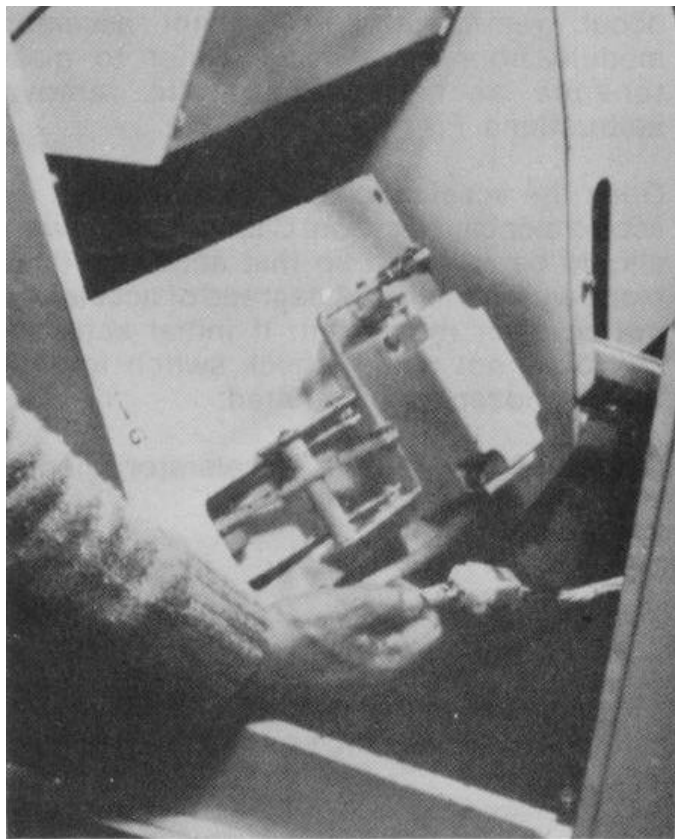

Figure 3-7
3.20.3 Examine the accelerator module connector, J5A/J5A (Fig. 3-7).